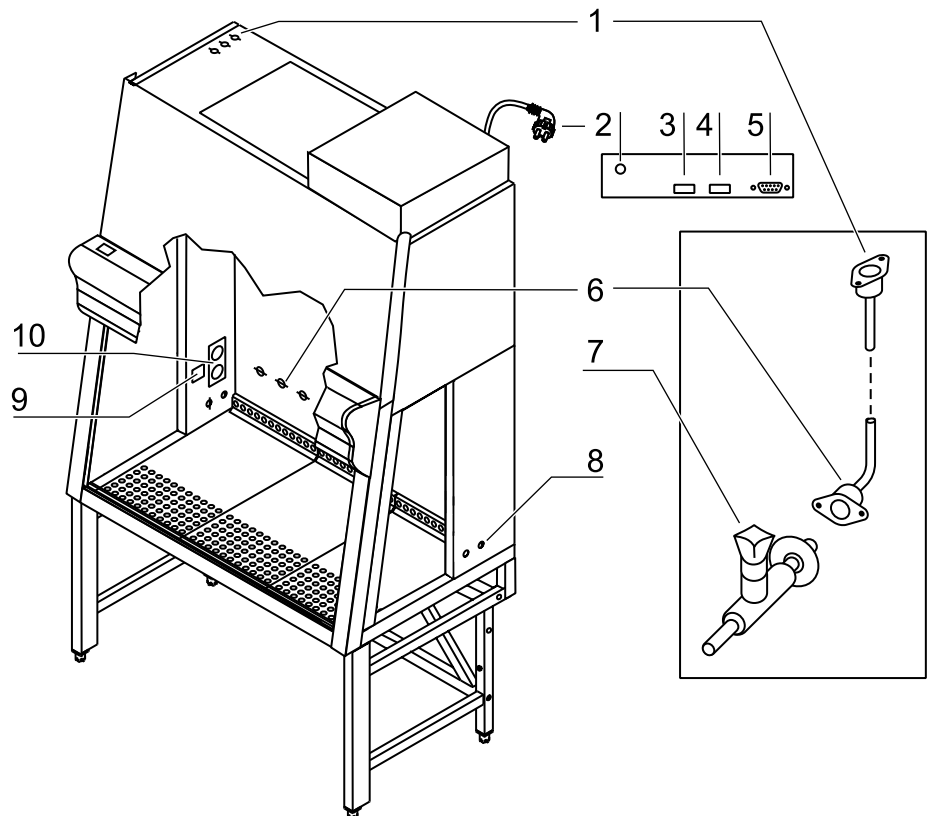

Fig. 8
**Fig. 8:** The standard equipment includes the outlets [10] for internal power supply as well as the openings [8] on both sides for routing of cables and hoses. All other supply connections are available as options and may also be retrofitted.